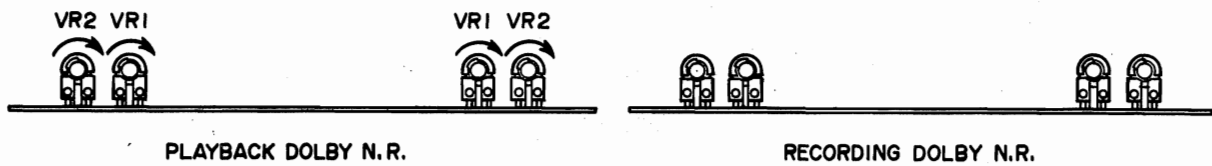

Fig. 30
- 1) Turn semi-fixed resistors VR1 500B and VR2 5 kB fully clockwise (Fig. 30).